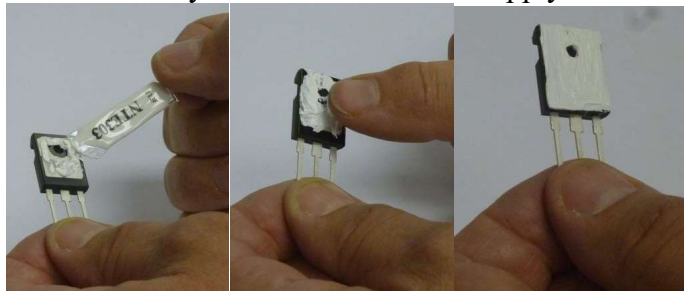

Figure 5-Placing thermal compound on Q4
3. Place a thin film of thermal compound on the metal tab surface of Q5 as shown in Figure 5. Inset Q4 into the circuit board as shown in Figure 6. Secure it in place with a #6-32x1/2” screw, just finger tight for now. The side with the thermal compound must attach to the heat sink.